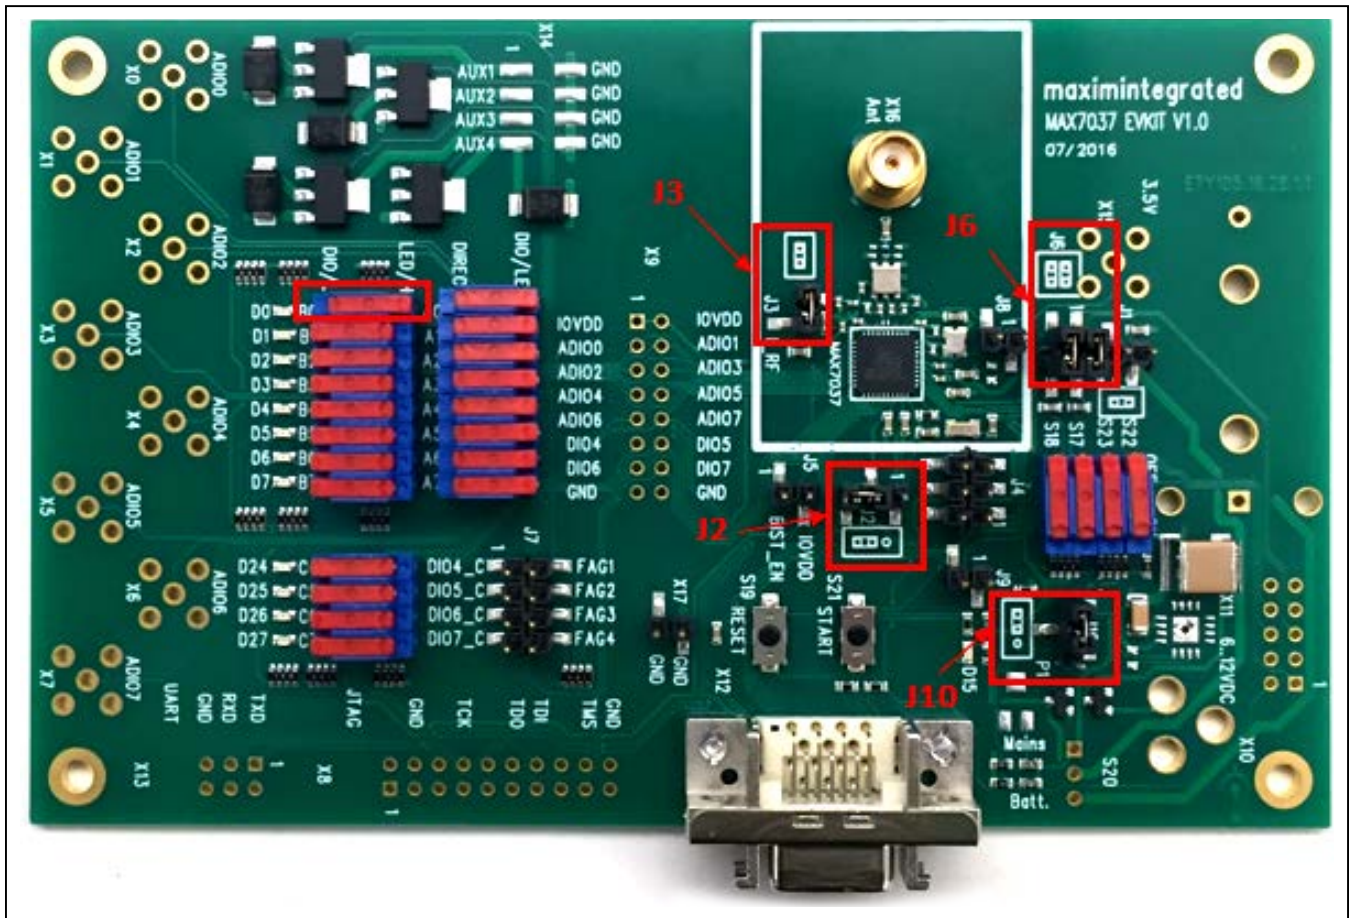

Figure 1. MAX7037 EV Kit Photo Jumpers Location
Shunt J2, J3, J6, J10. J2 has three pins. The two that are shunted are the ones indicated as shunted on the silkscreen of the EV kit (Figure 1, they are the left-most two pins). J10 also has three pins. The two that are shunted are the ones indicated as shunted on the silkscreen of the EV kit (top-most two pins in Figure 1). Any jumpers or headers not mentioned here should be left unshorted. Figure 1 shows the location of these jumpers.
- The four-switch DIP labeled S22, S23, S17, and S18 should all be slid to the upper position, as displayed in Figure 1.
- The four-switch DIP labelled DIO4–DIO7 should all be slid to the left position, as shown in Figure 1.
- The 8-switch DIP labelled IOVDD, ADI00–ADI02, ADI04, ADI06, DI04, DI06, and GND should all be slid to the right position, as shown in Figure 1.
- The 8-switch DIP labelled A0 – A7 should have all but the top-most switch slid to the left, as shown in Figure 1. The top switch of this particular DIP (i.e., the A0 switch) should be slid to the right.